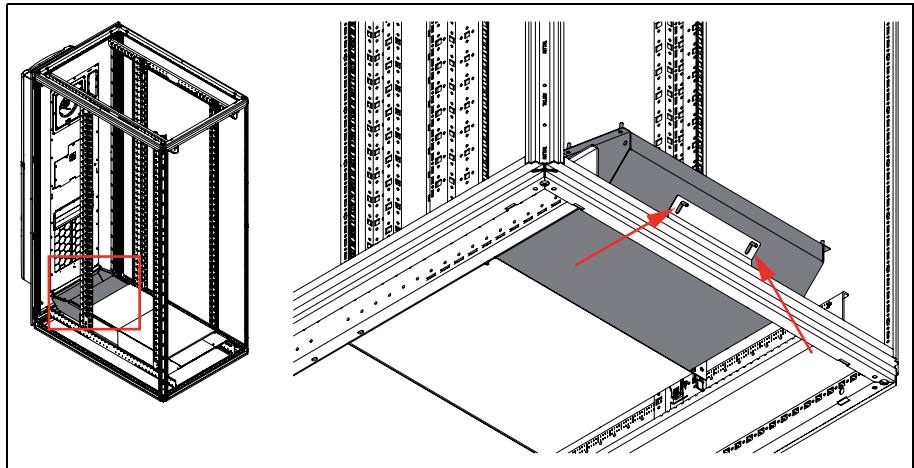

Fig. 16: Extend the horizontal air duct part
- Extend the end piece of the horizontal air duct part until the press-fit bolts are engaged with the slots and the contact surfaces are touching one other (fig. 16).